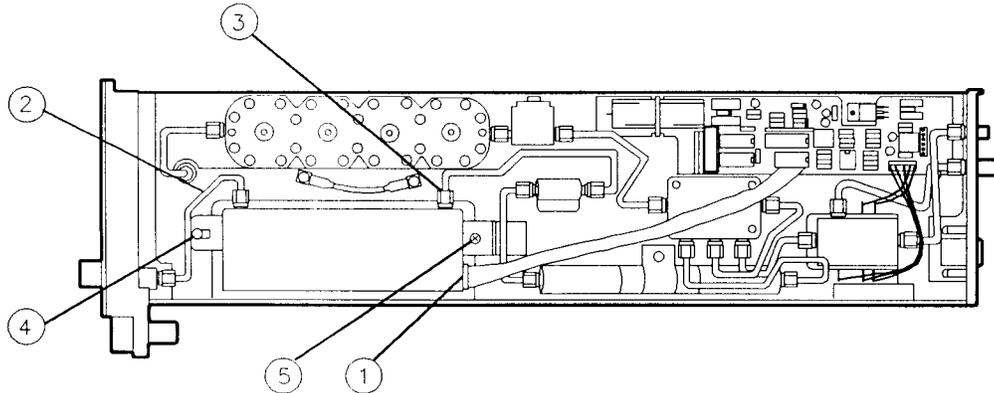

Figure 6-8. A8 Input Attenuator Replacement
3. Disconnect the A8W1 ribbon cable from the A8 Attenuator **(1)**. See Figure 6-8.